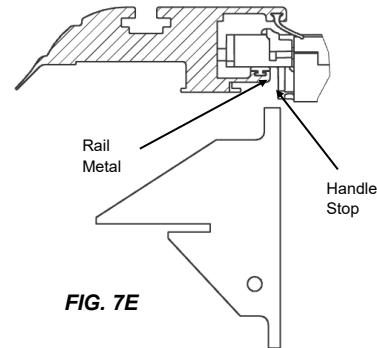

FIG. 7E
Finally, check for proper spacing by pushing the handle all the way to one side and attempting to insert the BR Gauge in between the rail metal and the handle stop at the opposite side (Fig 7E). You must do this at the canister and tailgate end of the rails. You can also check the between the rail measurement at the canister and the tailgate end of the rails. The measurements should be equal to or less than those in Figure 7C. The Clamp Extensions have been pre-installed with brackets and shims to achieve the proper Between the Rail dimension (BR) when placed on an average factory truck bed. However, not all truck beds are average dimensionally and some have optional plastic caps or over the rail spray-in liners.